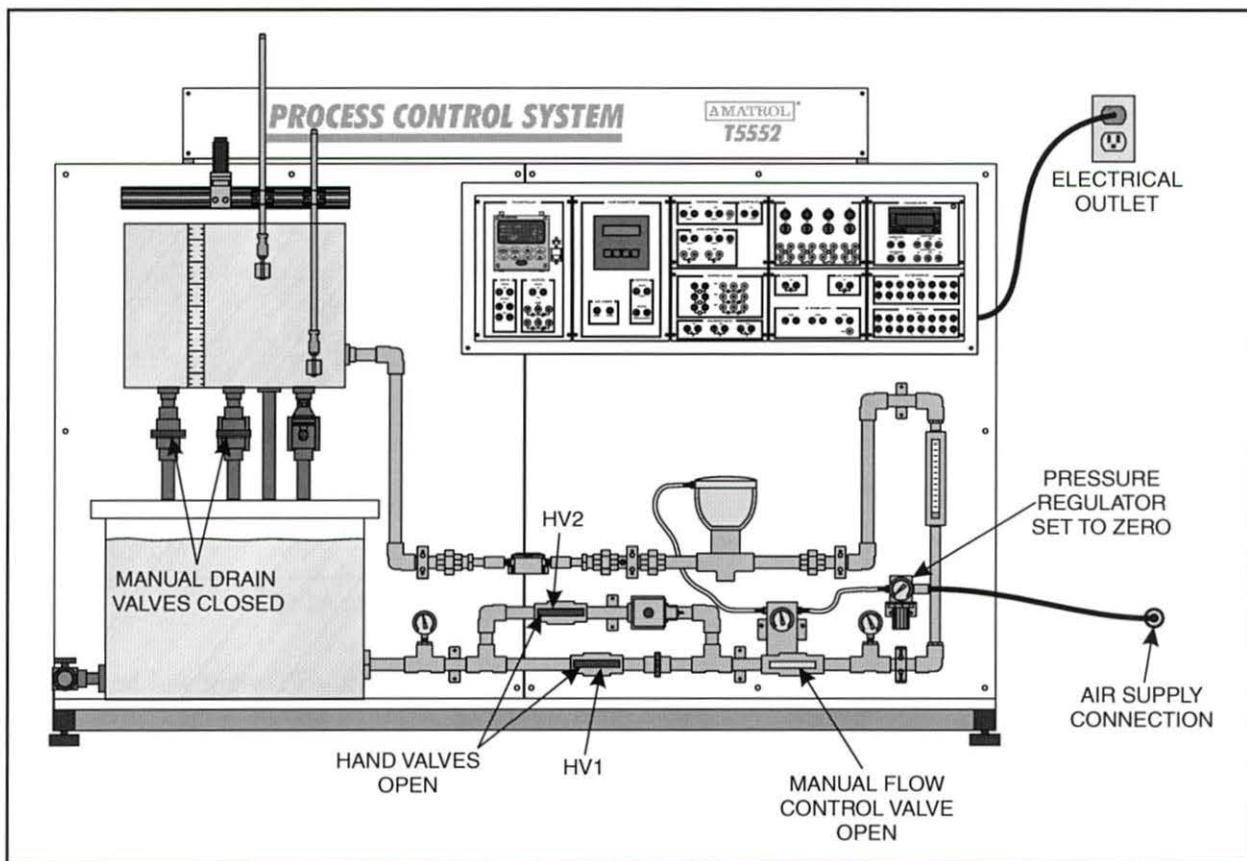

Figure 26. T5552 Setup
- 2. Perform the following substeps to set up the T5552, as shown in figure 26.